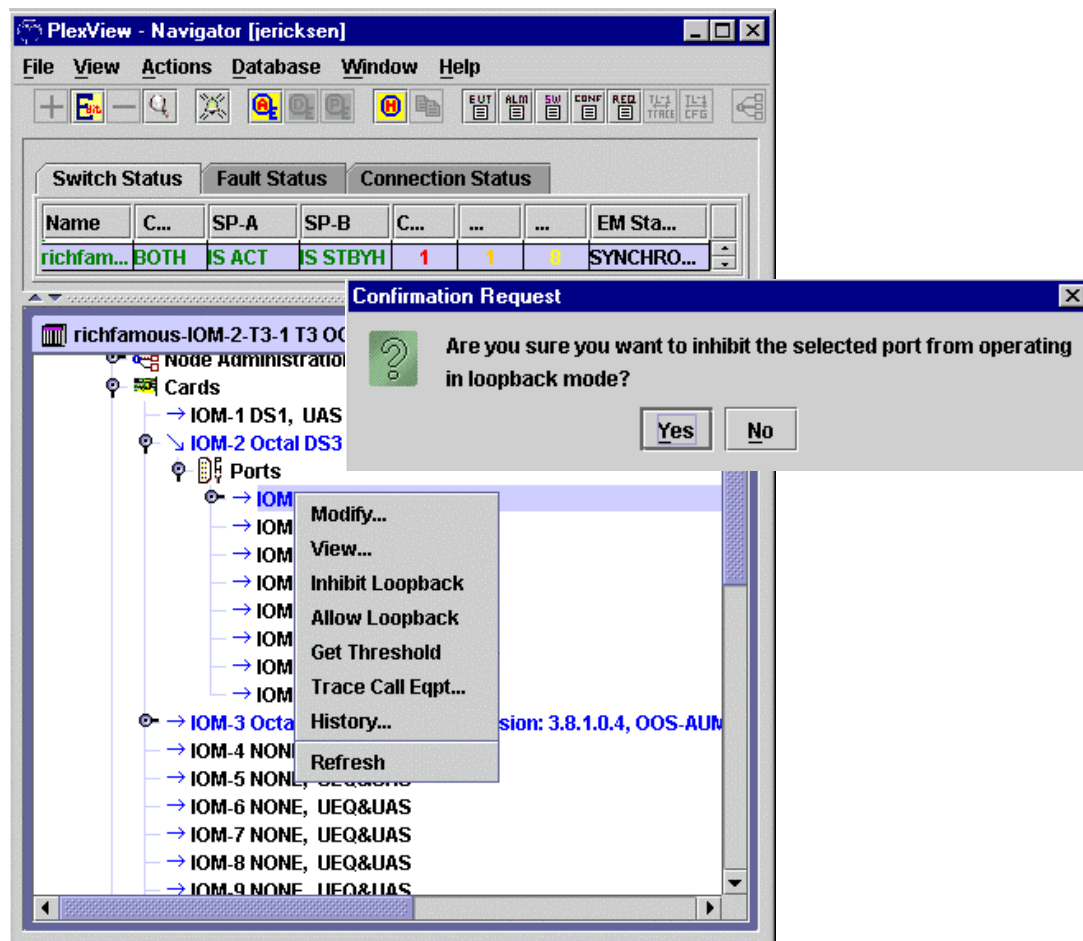

Figure 8. Inhibiting OC Loopbacks
18. To prevent remote OC-3 or OC-12 loopbacks, double-click the switch to select it for the main panel and then right-click the switch name. Click *Cards*, desired *IOM* and *Ports*. Right-click the desired port and select *Inhibit Loopback*. Click *Yes* in displayed frame to allow loopbacks. See Figure 8.